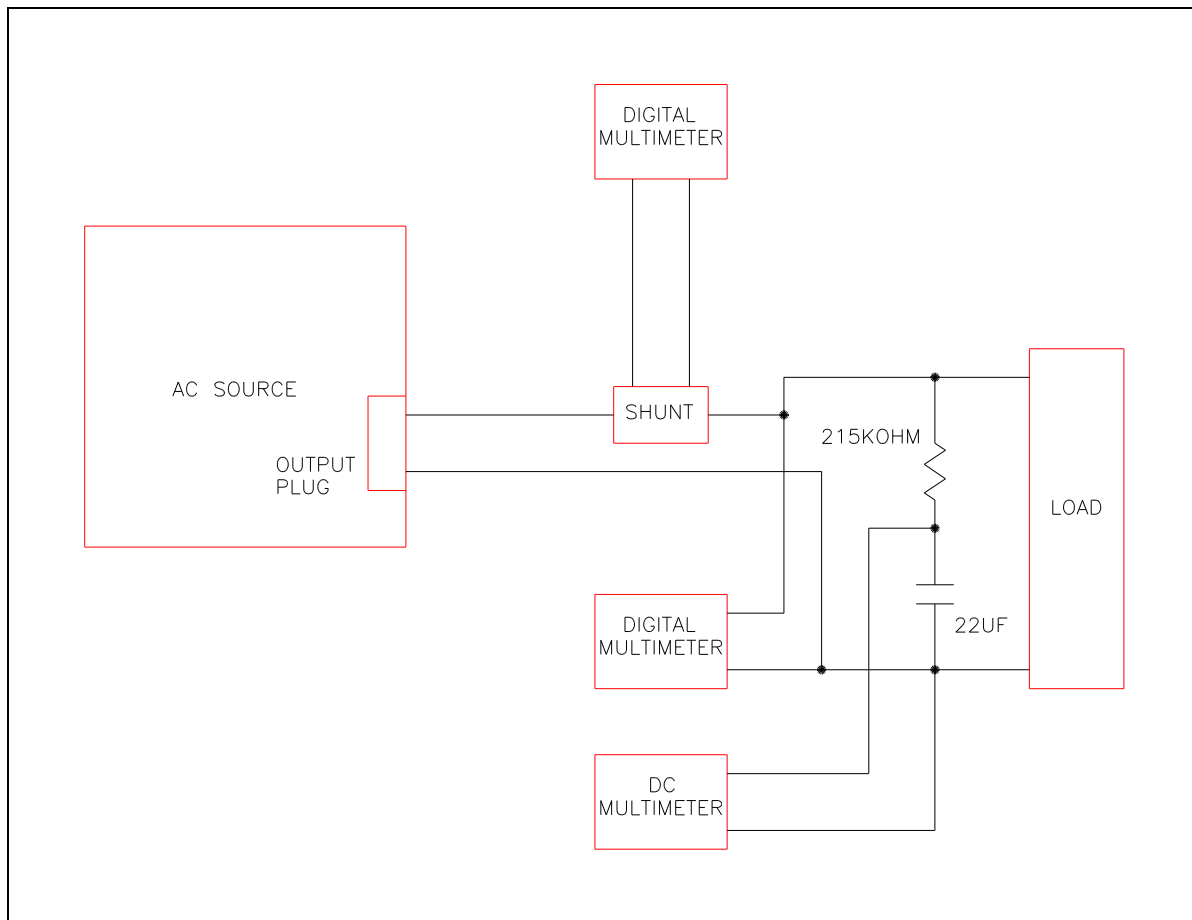

Figure 6-2: Test Equipment Hook-up for Measurement Calibration
1. Connect the test equipment to the power source as shown in Figure 6-2.
2. Measure the DC offset at the output using a Fluke 8840 or equivalent. Verify that offset is less than $\pm 0.025V$. Measure the DC voltage across a 22 μf capacitor connected to the output through a 215K resistor. Refer to Figure 6-2.